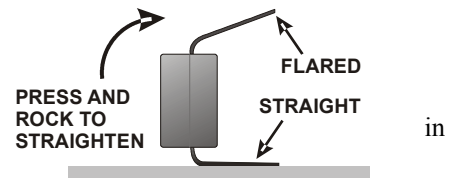

Figure 5. Straightening I.C.
- Place U1 on the board where shown by the outline near the center. If the pins are spread too wide to fit, place U1 on its side on a solid, flat surface and rock it gently to bend all the pins inward slightly as shown Figure 5. Do the same on both sides until it fits into the solder pads on the board.